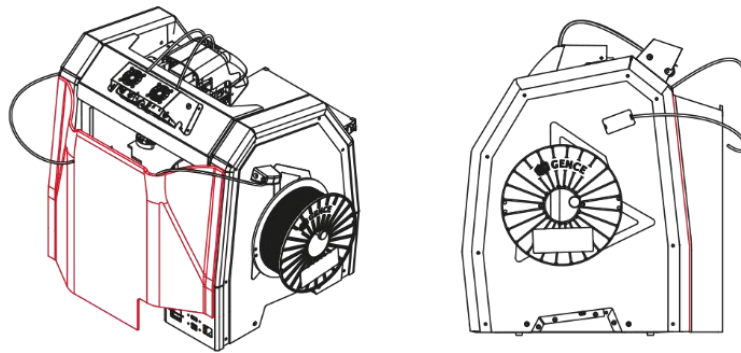

Fig. 68 Mounting the rear enclosure part
4. Mount the rear enclosure part (fig. 68). Align the curvature of the enclosure, so that it interlocks with the back of the printer (fig. 68).